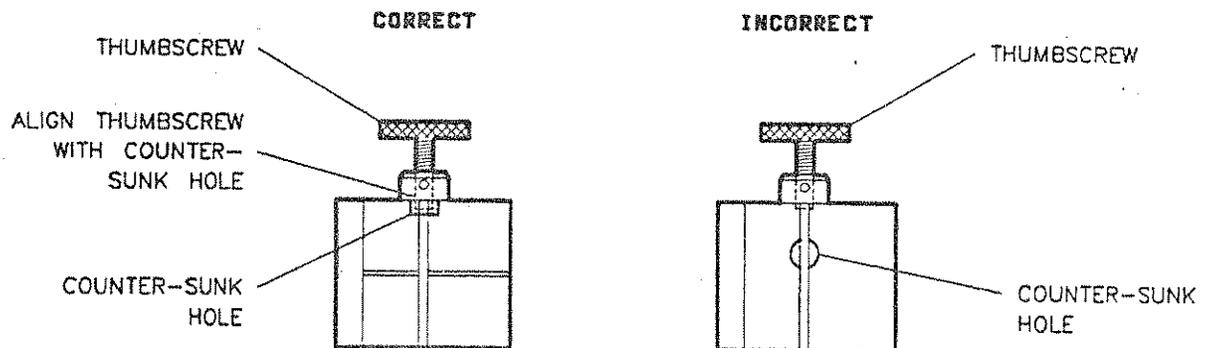

Figure 3-7. Aligning the Thumbscrew with the Counter-bored Hole
5. See Figure 3-7. Make sure that the thumbscrew is aligned with the counter-sunk hole in the clamp body. Push the clamp toward the test set front panel and then tighten the thumbscrew with your fingers. The cable cannot be damaged by tightening the thumbscrew too tightly.